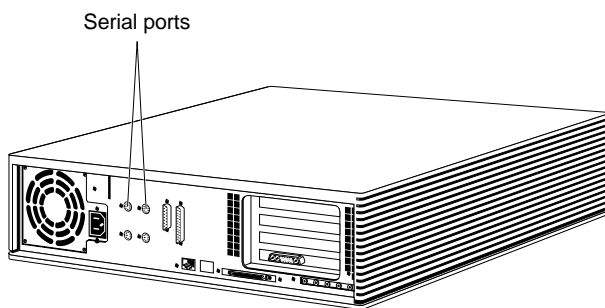

Figure 6-13 Locating the Serial Ports on the Back of the Indigo² IMPACT Workstation
2. Locate the serial ports on the back of the Indigo² IMPACT workstation, as shown in Figure 6-13.